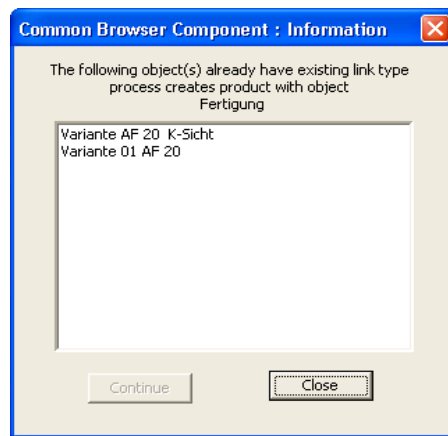

Figure 69: Common Browser Component: Information Dialog
- 4) If no link exists between selected objects, the new link of selected type is created. If link already exists between selected objects, the **Common Browser Component: Information** dialog come up with objects that already have same link type. Please refer to the Figure 69.